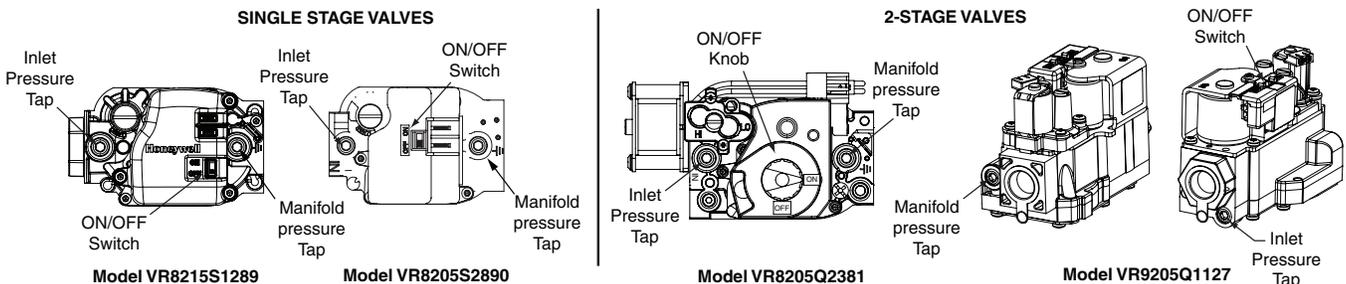

Figure 6. Inlet & Manifold Pressure Tap Locations
2. Using a 3/16" Allen wrench, remove the plug from the inlet pressure tap (INLET side of gas valve). See Figure 6.
4. Place the gas valve ON/OFF switch/knob to the ON position. See Figure 6.
- Using a 3/16" Allen wrench, remove the manifold pressure tap plug located on the outlet side of the gas valve. See Figure 6 (page 6).